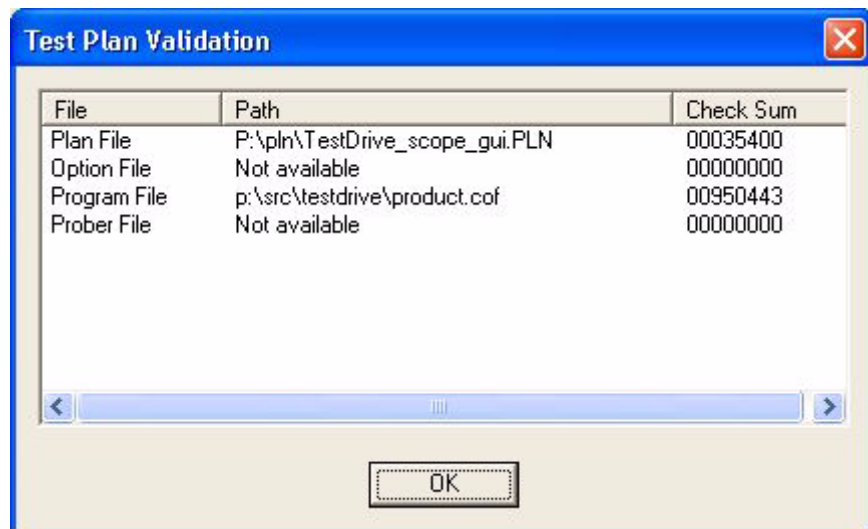

Figure 5-41. Test Plan Validation Dialog Box
- 7 Selecting **OK** displays the Test Plan Validation dialog box (Figure 5-41). The `VALIDATE 0x10` plan file test switch controls whether this dialog box displays. It displays the corresponding checksums and adds them to the summary file.